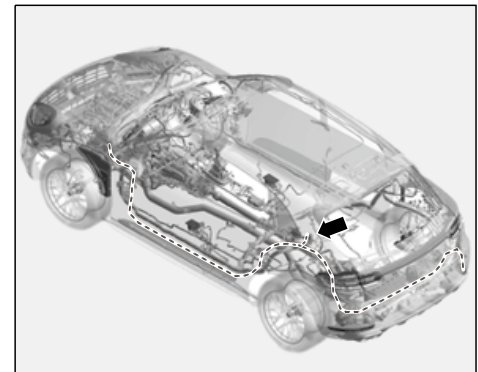

Figure 41
3.4.1 **ONLY** for left-hand drive vehicles (⇒ *Figure 41*):